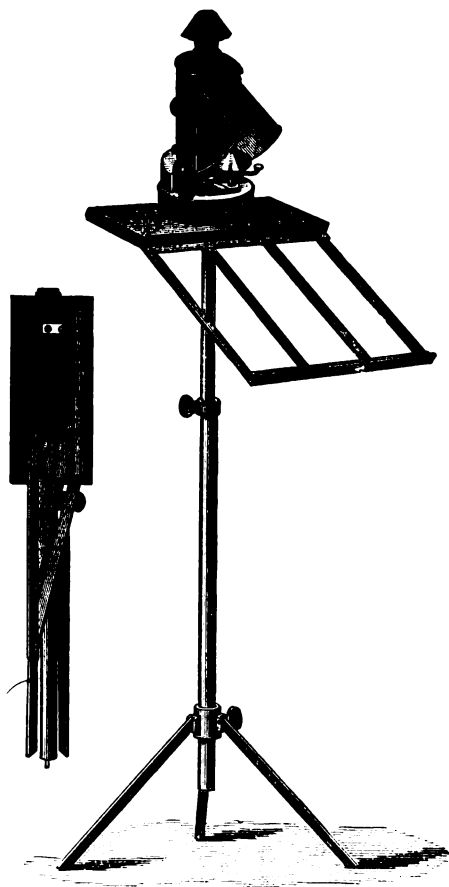

Fig. 59.
**Portable Reading Desk.** (Fig. 59.)—This reading stand and desk is portable and folds up in a small compass. The three projecting legs forming the basis, fold flat against the side of the main rod, the socket holding these, slides up the main rod carrying the collapsable legs with it. When fitting up for use, care should be taken to place the socket at the extreme end of the rod, before fastening with the thumb screw, if the thumb screw is fastened on any other part of the rod, it will cause a dent, and as this is telescopic, there is a trouble to withdraw the inner rod. The other portions seem simplicity itself.